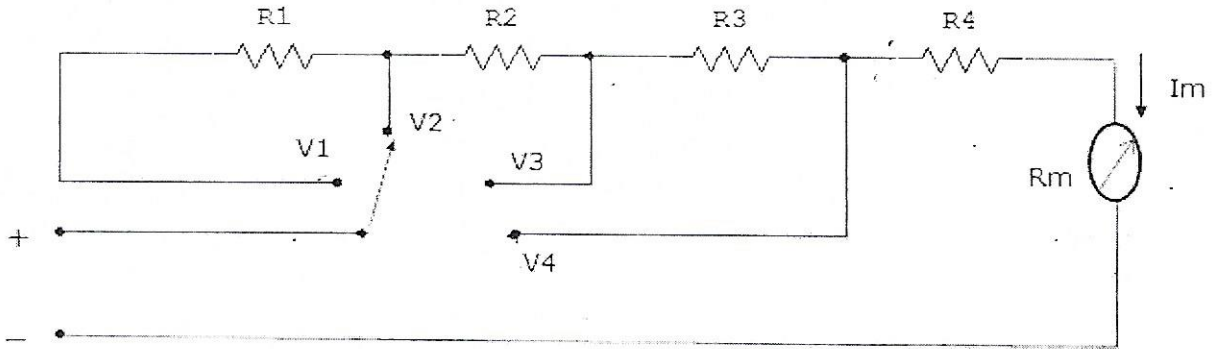

Figure Q2. Multirange Voltmeter.
- d) Convert a basic D' Arsonval moving coil meter with an internal resistance of 120Ω and a full scale deflection current of 2 mA into a multirange dc voltmeter with voltage ranges of $0\text{-}10\text{V}$, $0\text{-}50\text{V}$, $0\text{-}100\text{V}$ and $0\text{-}250\text{V}$. You may use the circuit given in figure Q2 below. [10 Marks]